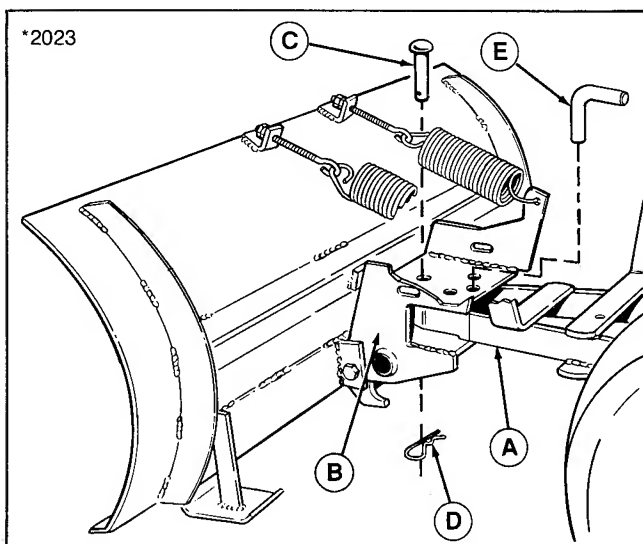

Figure 6. Dozer Blade Assembled and Installed
5. Insert front of push bar (A, figure 6) into pivot frame (B) on rear of blade. Then install king pin (C) down thru holes in hitch and pivot frame. Secure king pin with spring clip (D).
6. Using king pin as the pivot, swivel push bar to align holes for pivot pin (E, figure 6). Then install pivot pin downward through holes in blade and push bar. The pivot pin can be installed in any of three holes, depending on desired blade angle.
Use any grade to your advantage. Plow downhill and set the blade angle so that plowed material (especially snow) is moving downhill as it leaves the blade. To change blade angle, pull out the pivot pin (E, figure 6). Pivot the blade to one of the other three holes and reinstall the pivot pin.